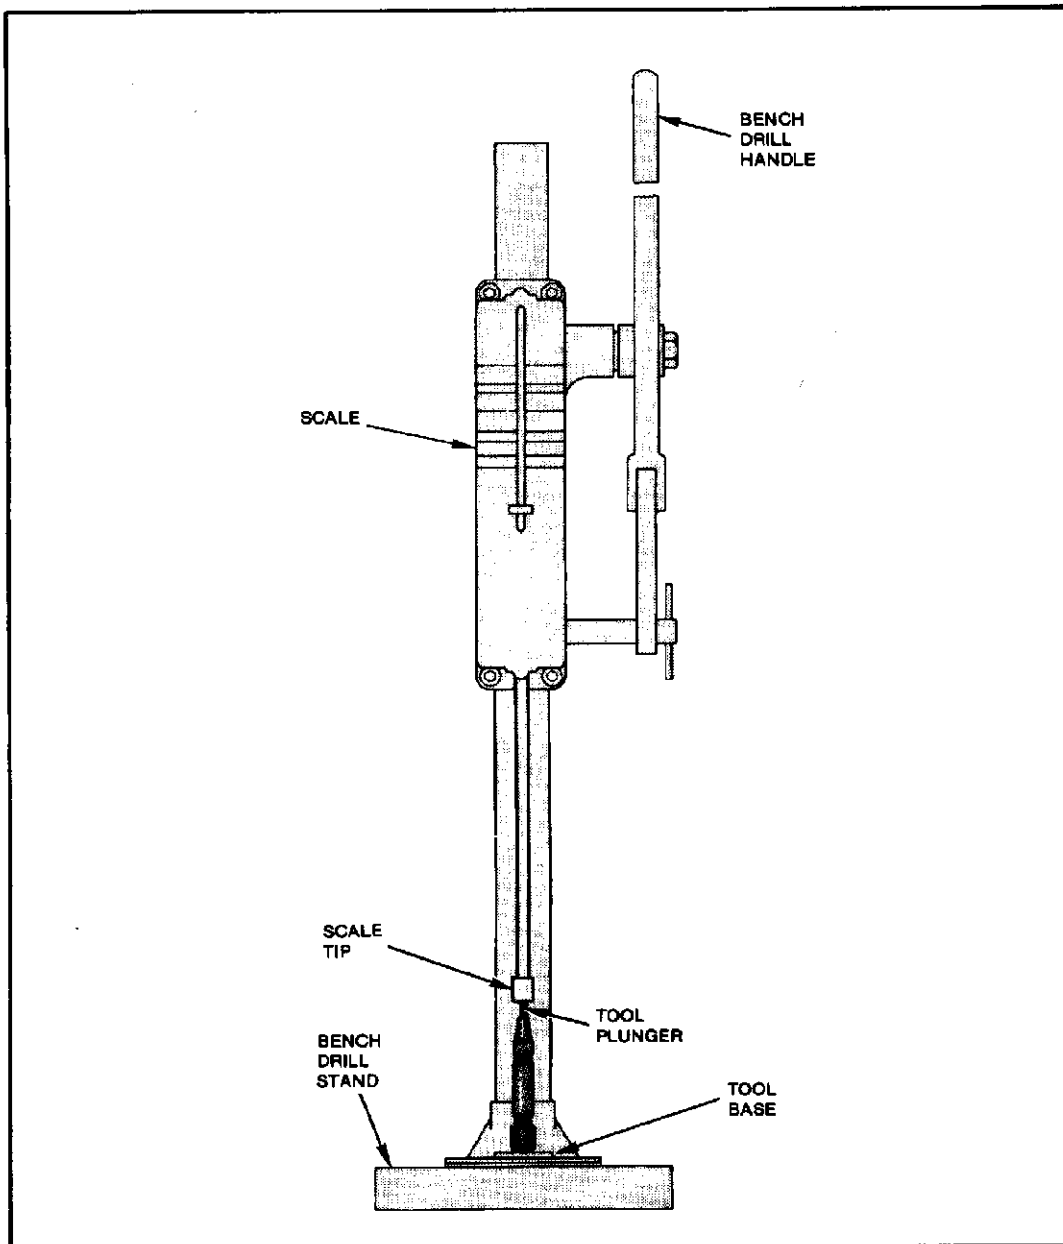

Figure 2
The trip force of this tool is adjustable and is factory adjusted for 16 to 18 lbs. Proper trip force is required to ensure proper insertion of the ACTION PIN contact into pc board or panel. To check the trip force accurately, obtain a gage that indicates trip force in pounds. Use a Chatillon Scale, No. 30D, with Van Dorn Drill Stand (bench type), No. 22145, Size 40, or their equivalents. See Figure 2. Check and, if necessary, adjust tool, as follows:
- (a) Place tool plunger under scale tip with top of tool on tool base on bench drill stand, as shown in Figure 2.